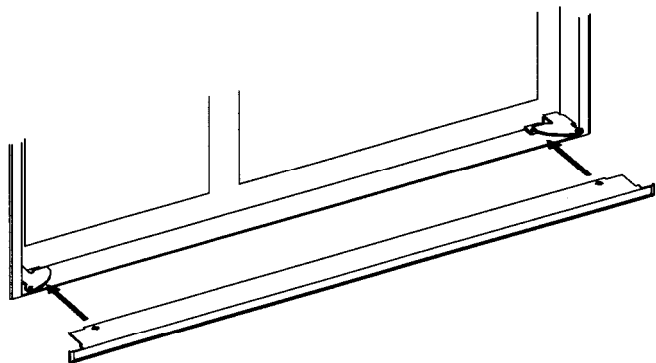

FIG. 5
1. Install the lower front strip by sliding it under the bottom hinge plates, as shown in FIG. 5.